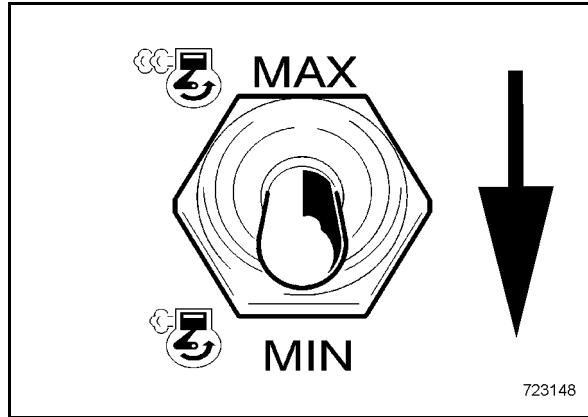

Fig. 49
- Change to idle speed (Fig. 49) and let the engine run for another few minutes for cooling.